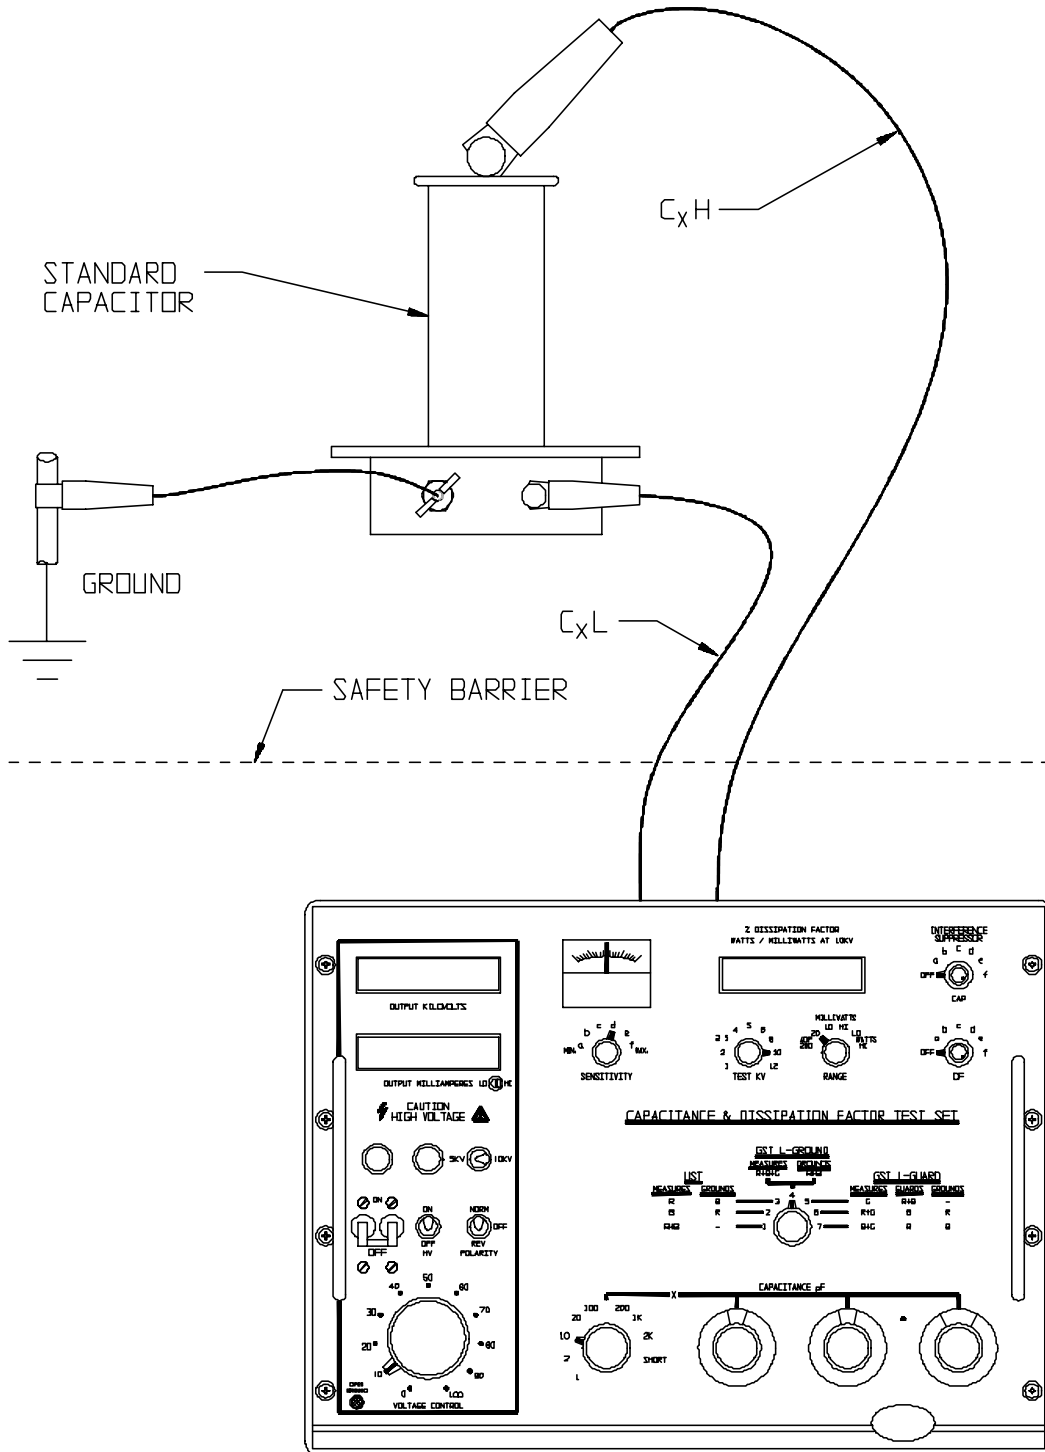

Figure 8: Test Setup for Calibration Check
3. Connect the Capacitance and Dissipation Factor Standard to the test set as shown in Figure 8.